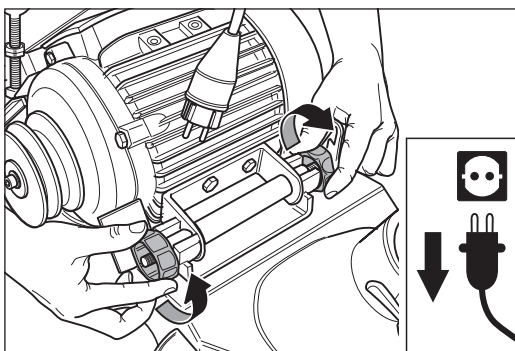

Fig. 47 Loosen the two motor nuts.
- 4 Loosen the two motor nuts at the motor bearing bracket (fig. 47).